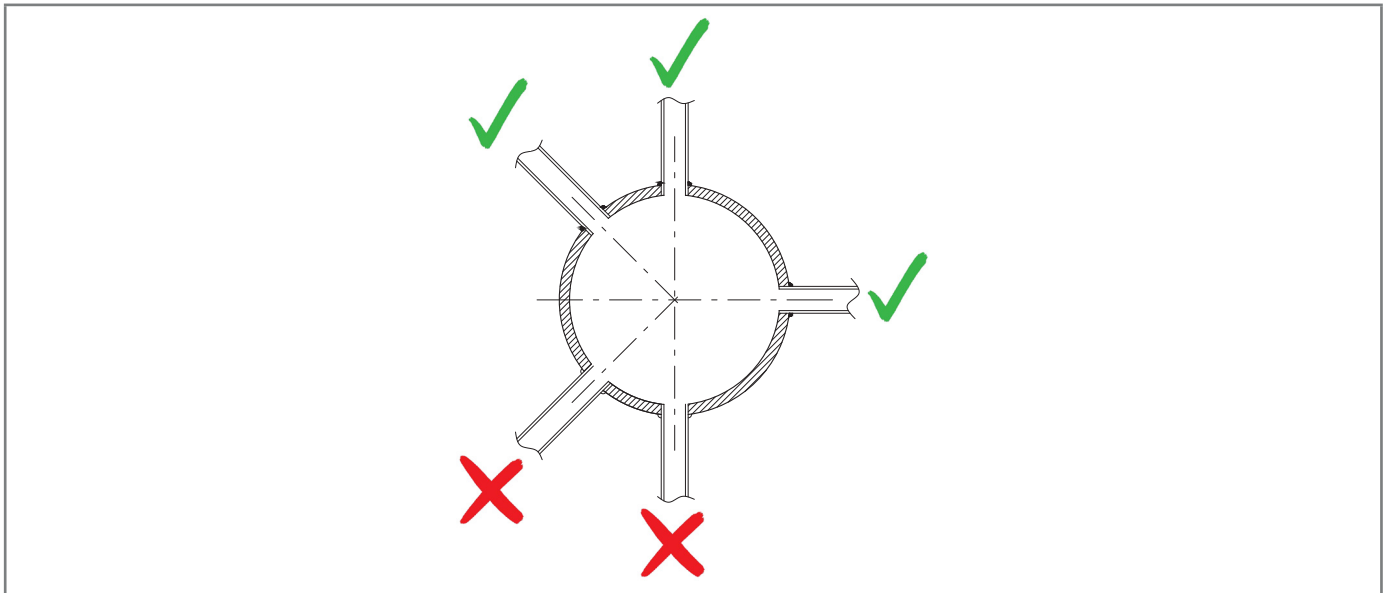

Fig. 6.27. Welded pipe connections
- the pipe connections are always welded on the upper part or at maximum 90 degrees on the axis of the pipe (refer to Fig. 6.27);